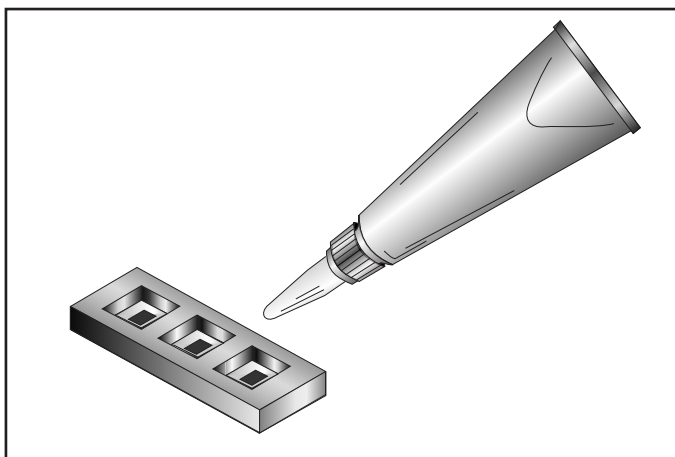

Figure 6-1. Glue Application
2. Apply a small amount of glue to the back of the cover. Refer to Figure 6-1.